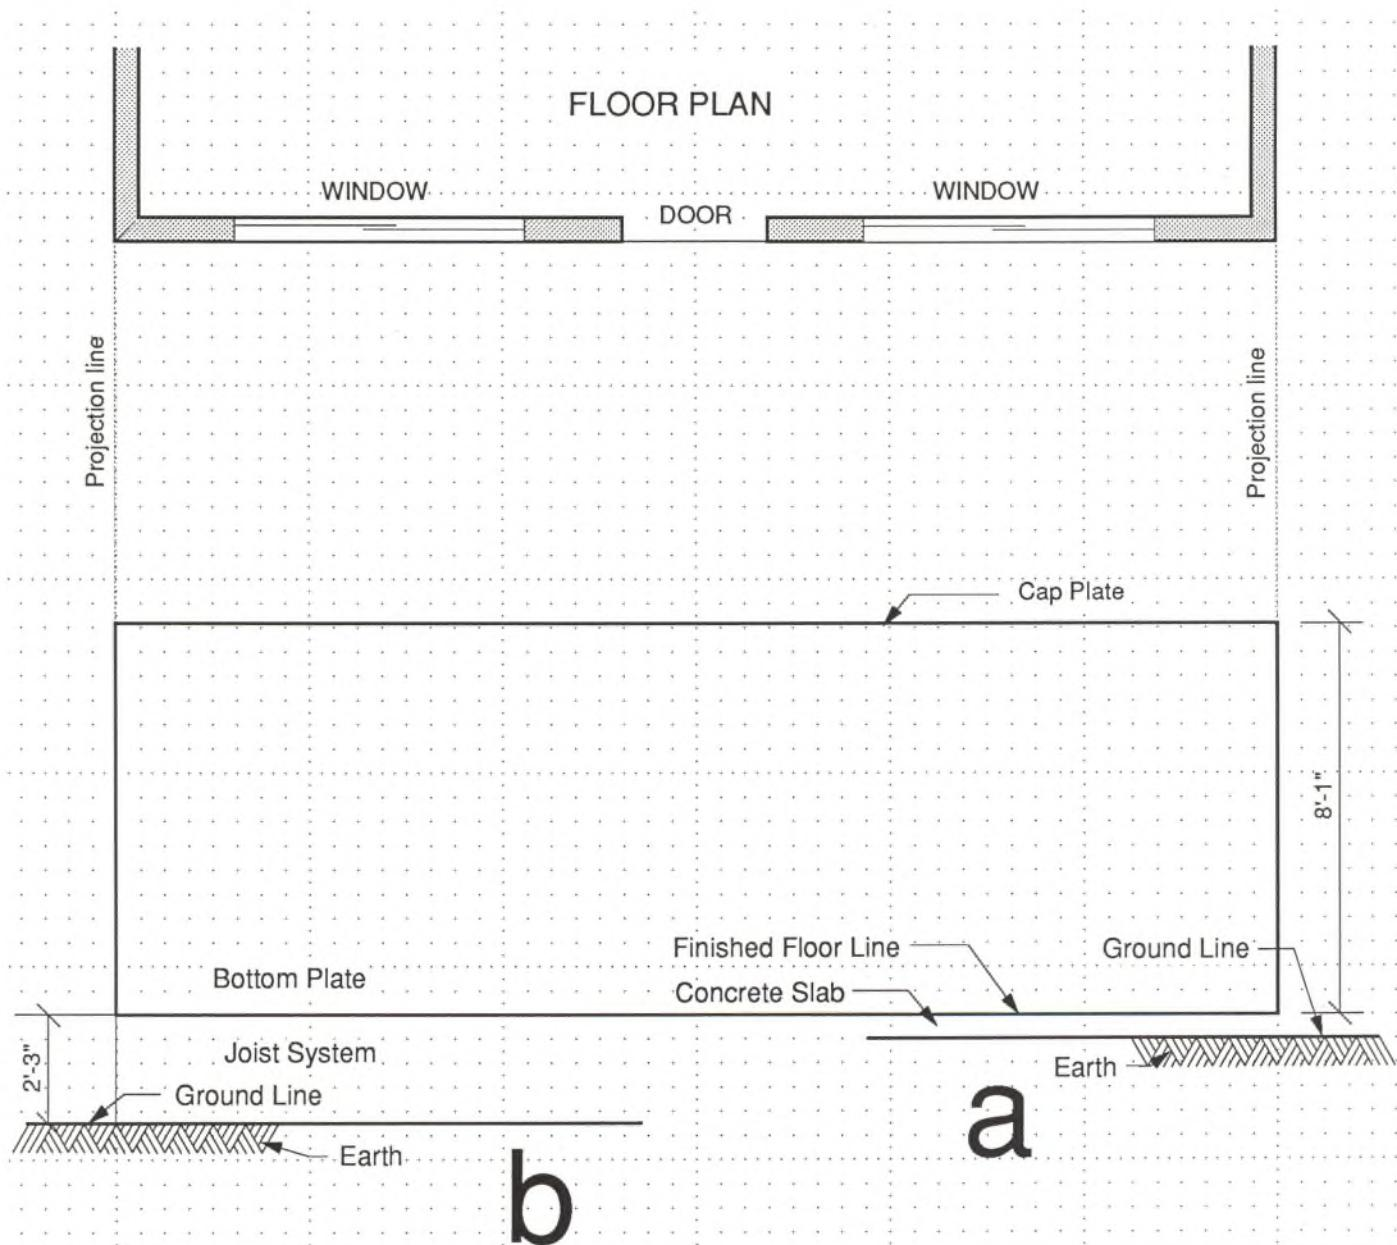

Fig. 24.5 Select the floor system to be used and draw the ground line.
Floor system: Height of the finished floor from the ground line, depending on the floor system used. (See Fig. 24.5.)
1. If the house is to have a concrete slab floor system, as shown in the **a** portion of Fig. 24.5, measure *down* 8" (in 1/4" scale) from the bottom-plate line and make a mark.
3. Draw the symbol representing earth as shown in Fig. 24.5.
1. If the house is to have a wood frame floor joist system, as shown in the **b** portion of Fig. 24.5, measure *down* approximately 2' - 3" from the bottom-plate line and make a mark.
2. Draw the ground line, as in Fig. 24.5.